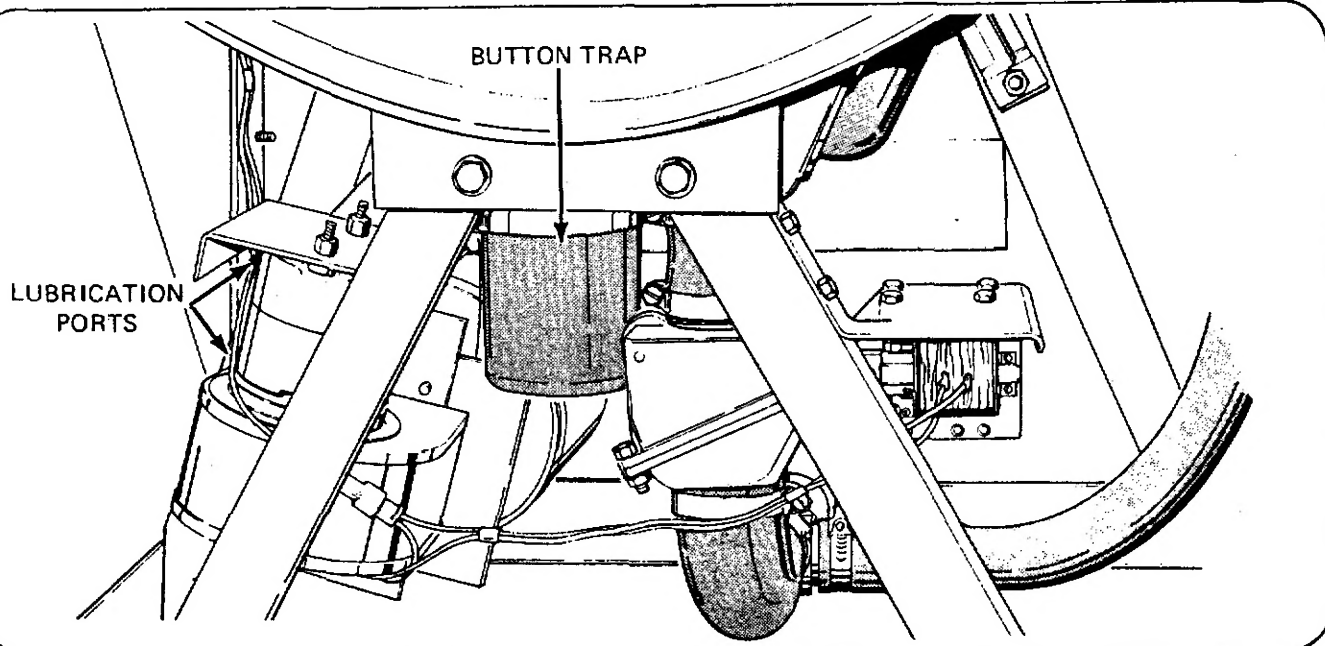

Figure 10
- Remove button trap and clean if necessary. *Figure 10* shows location of button trap behind air intake grille. When reinstalling button trap, be sure frame is in place and tightened securely to prevent a water leak.
- e. Lubricate blower motor with Speed Queen No. 20605 Hi-Temp Lube. (See *Figure 10* for location of lubrication ports.) Do not over-lubricate.